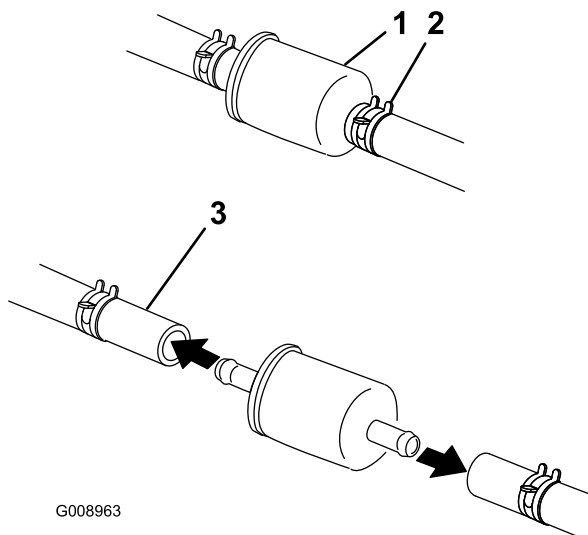

Figure 39
5. Squeeze the ends of the hose clamps together and slide them away from the filter (Figure 39).